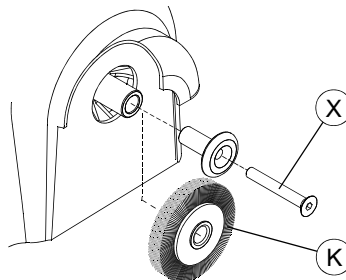

Fig. 16
- 2) use the wrench provided to loosen the brush locking screw (fig. 16);